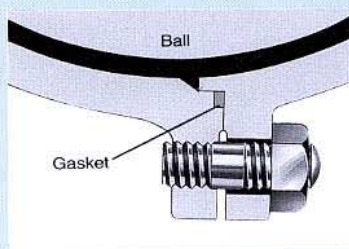

Fig. 7 (Before fire)
- Valve shell coupling flanges of split body design (Fig. 7 & 8)